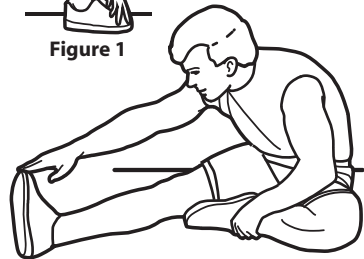

Figure 2
- D. If the belt drifts to the right, turn the left adjustment bolt 1/4 turn counter-clockwise or the right adjustment bolt 1/4 turn clockwise. (See FIG. 2)
**Hamstring Stretch:** Sit on a clean mat with one leg extended straight. Tuck the other leg in so that its foot is close to the inner thigh of the extended leg. Reach towards your toes with your hands. Hold for 10-15 seconds, then relax. Perform this stretch three times for each leg (see Figure 2).